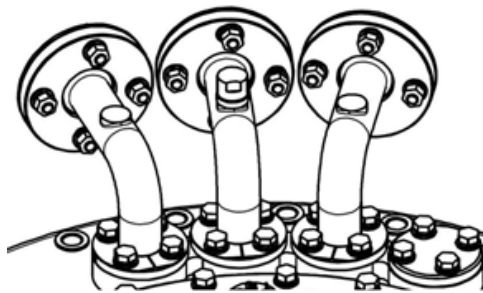

Figure 42 Pipe joint
- 2) When filling oil, use the pipe joint S or Q on the tap-changer head. (Figure 42)